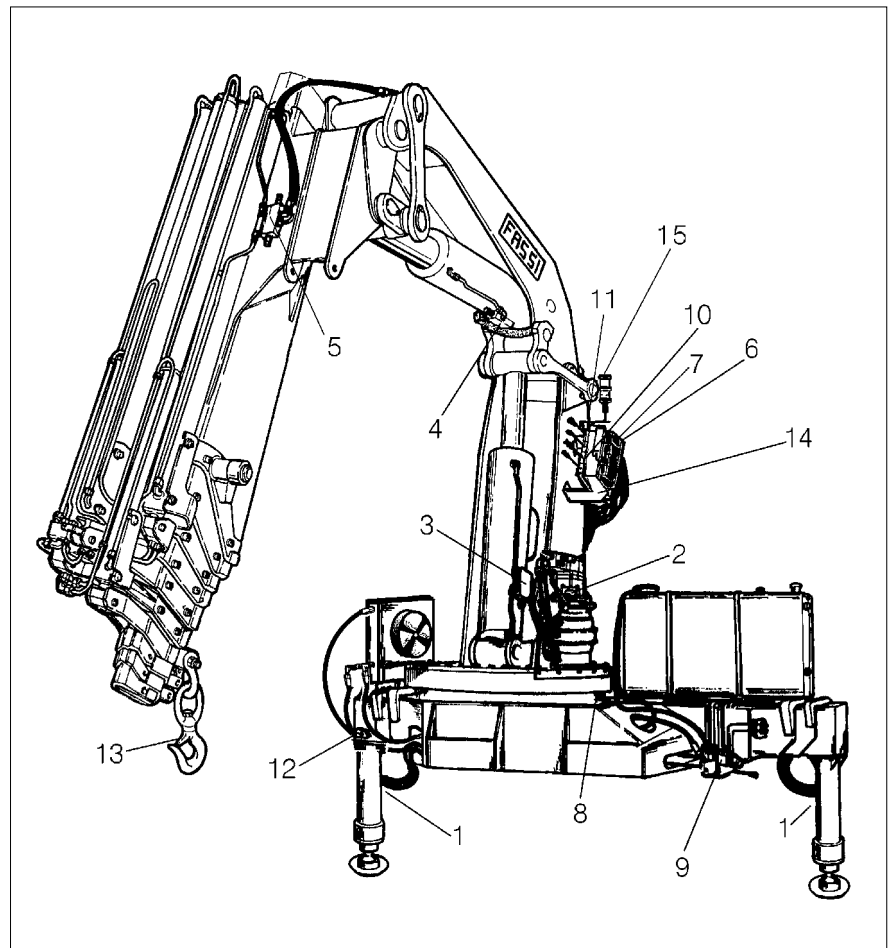

fig. 5
10.1 Controls for crane and outriggers through push-button panel of the radio remote control. (fig. 5).